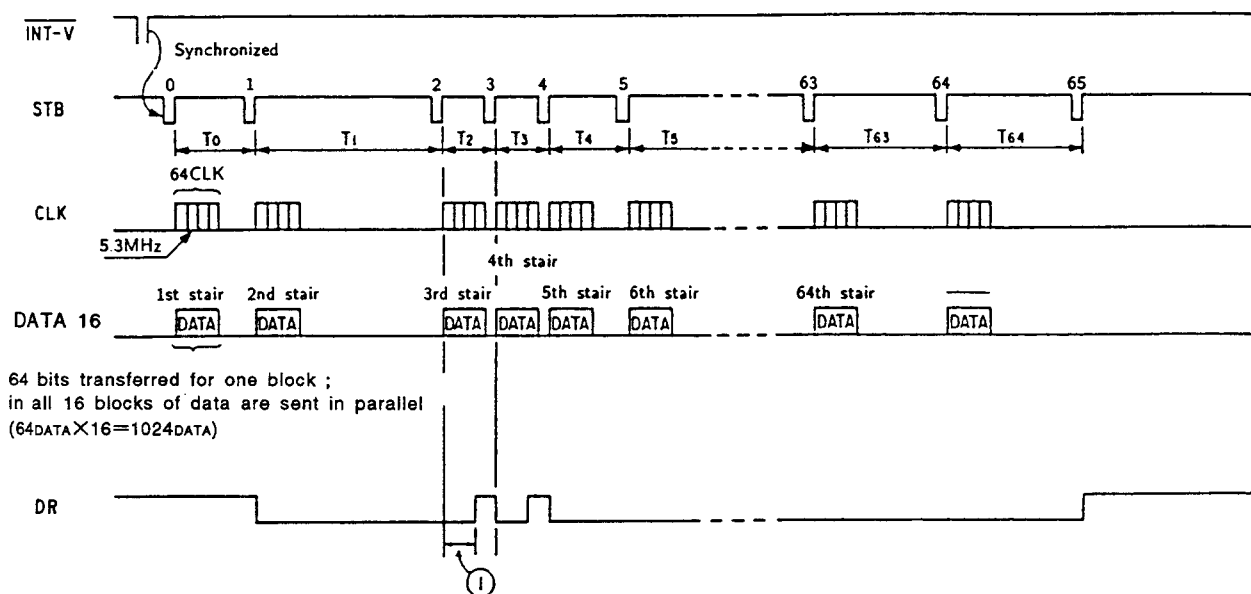

Fig.5-10. Stair Generation
- (i) The data recorded in video memory IC104 during print is input to gradation data generation circuit IC103 by one print line using a picture variable power operation circuit in IC103. The stair data generation circuit outputs the 6 bits of data recorded in IC103 as one of 64 levels. If the 6-bit data is "3", then DATA "H" is sent to the head during the 1st, 2nd, and 3rd stairs of DATA 1 to 6 in Fig.5-10, but from the 4th stairs and later, the DATA "L" is sent. In this way, the screen is printed with the third stair, but from the fourth stair and later is not printed. (See the explanation of the basic operations in 5-6-3.)